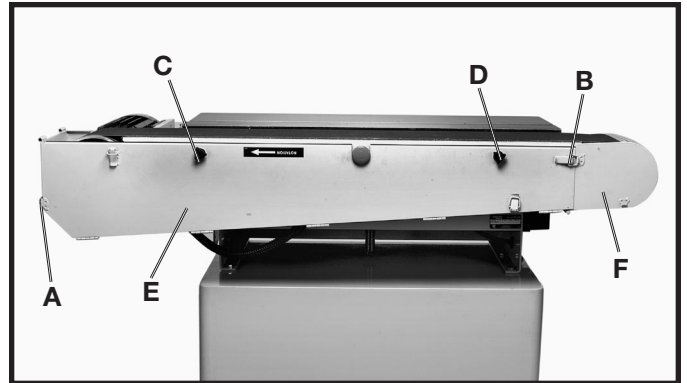

Fig. 11
7. Raise the belt guards (E) and (F) Fig. 11.
8. Latch levers (A) and (B) Fig. 11 to belt guards (E) and (F).
9. Replace knobs (C) and (D) Fig. 11, that were removed in **STEP 1**.